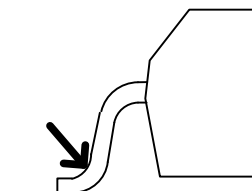

Figure 1: Total Resistance
- 12) The resistance is defined as the total resistance measured from a point of the lead next to the solder joint, assuming that the two $IP+$ pins (and $IP-$ pins) have the same potential (see Figure 1). This definition corresponds to the effective resistance used to estimate the Joule heating, calculated with $R \times I_P^2$.